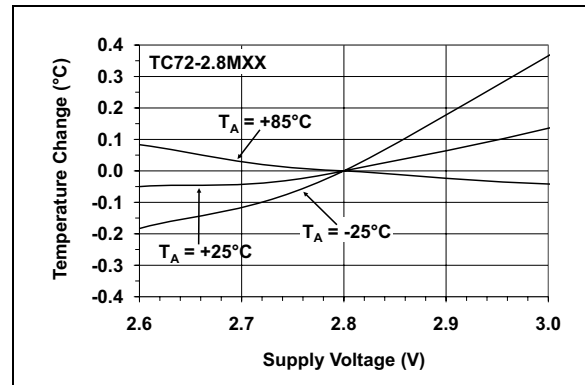
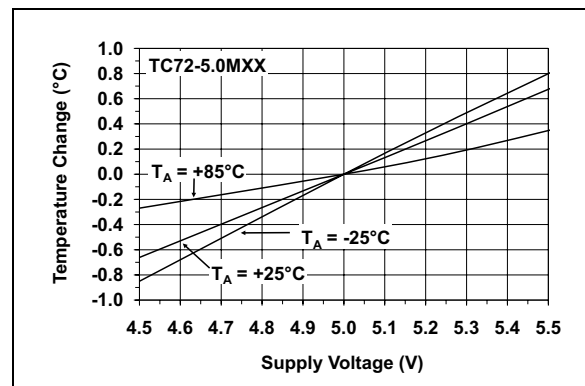

FIGURE 2-5: Temperature Accuracy vs. Supply Voltage (TC72-2.8MXX).
FIGURE 2-6: Temperature Accuracy vs. Supply Voltage (TC72-5.0MXX).
- Note 1:** The TC72-2.8MXX, TC72-3.3MXX and TC72-5.0MXX will operate from a supply voltage of 2.65V to 5.5V. However, the TC72-2.8MXX, TC72-3.3MXX and TC72-5.0MXX are tested and specified at the nominal operating voltages of 2.8V, 3.3V and 5.0V respectively. As V_{DD} varies from the nominal operating value, the accuracy may be degraded. Refer to Figure 2-5 and Figure 2-6.
Note 1: The TC72-2.8MXX, TC72-3.3MXX and TC72-5.0MXX will operate from a supply voltage of 2.65V to 5.5V. However, the TC72-2.8MXX, TC72-3.3MXX and TC72-5.0MXX are tested and specified at the nominal operating voltages of 2.8V, 3.3V and 5.0V respectively. As V_{DD} varies from the nominal operating value, the accuracy may be degraded. Refer to Figure 2-5 and Figure 2-6.